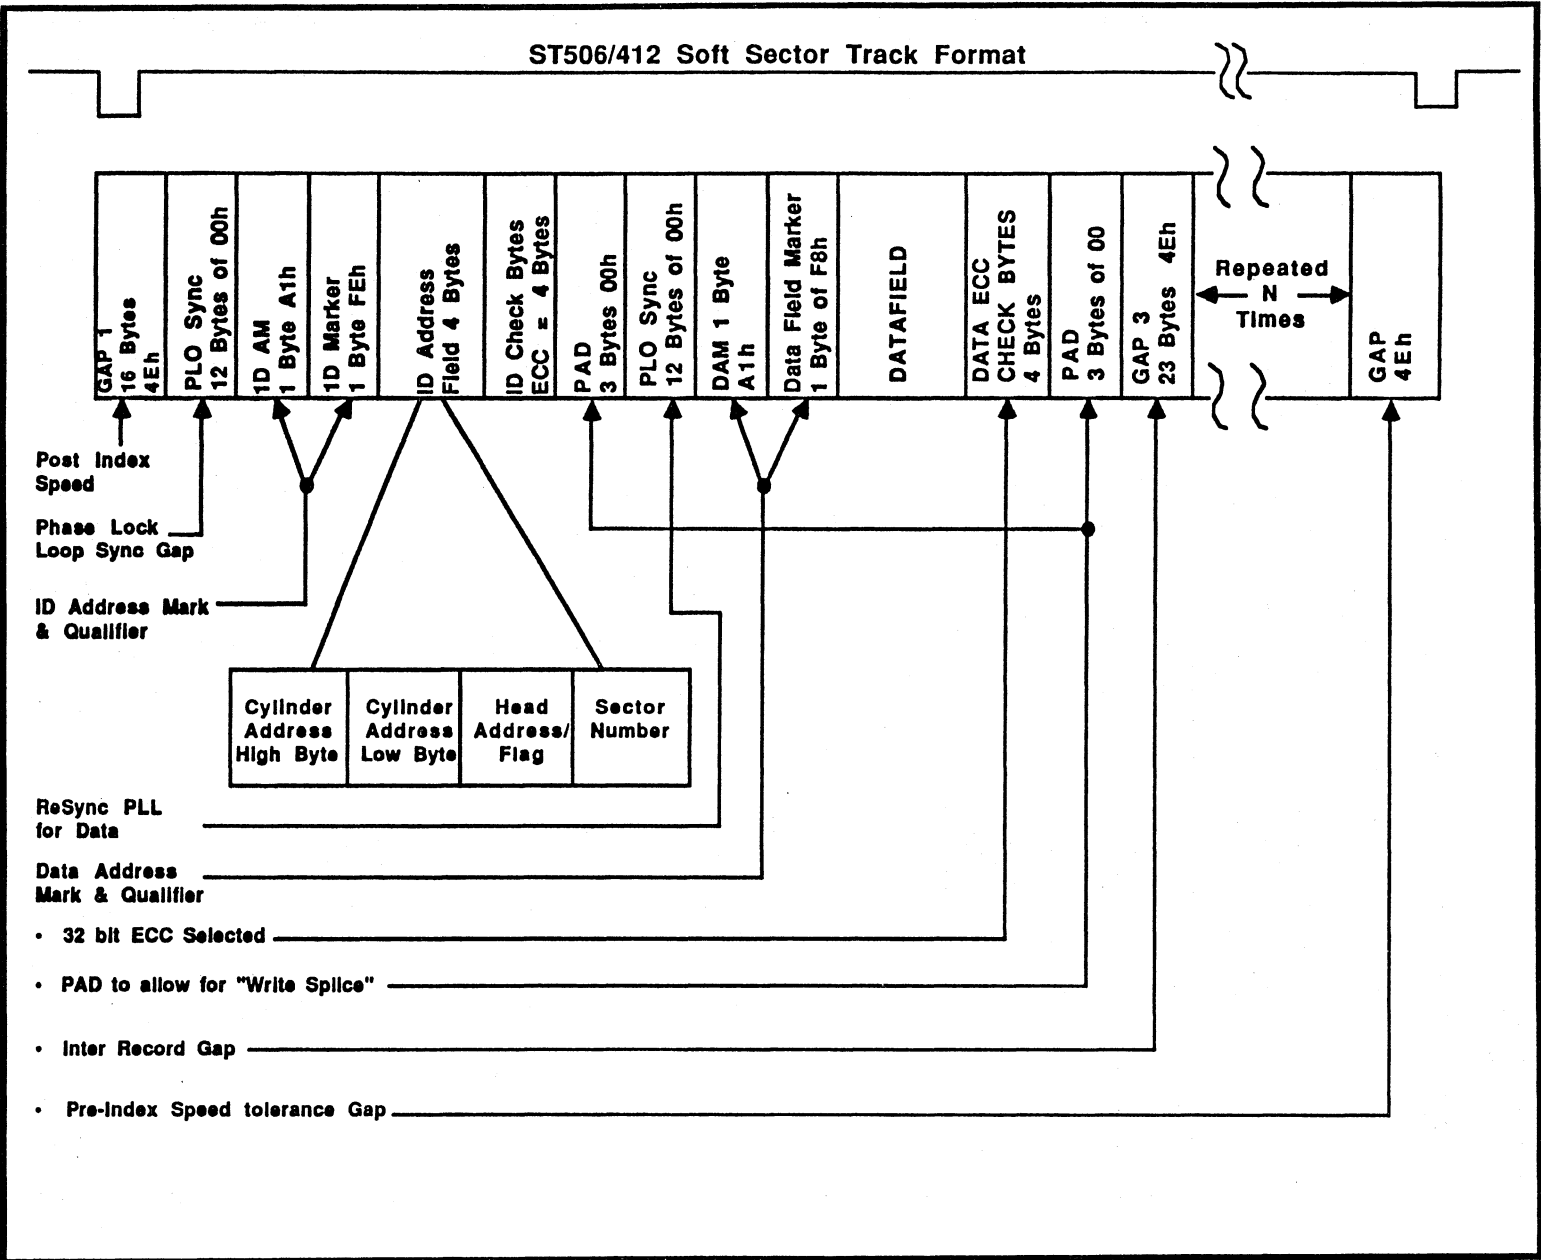

Figure B-1. ST 506/412 Soft Sector Track Format Diagram
In order to initialize the Format Parameter Register File, a table must first be setup (typically in ROM) containing the values to be written. Each of the following define byte (DB) directives specify the contents of a value or count. An example for soft sectored ST506/412 Track Format is given in Figure B-1 and Table B-1 as follows: